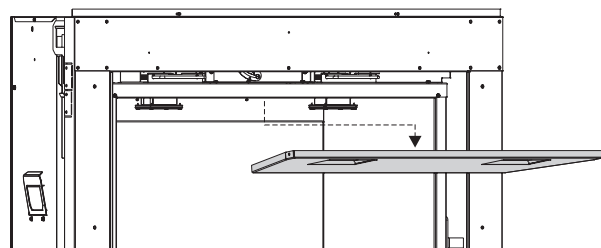

**Figure 75**
1. Remove the following items: **See Figure 75.**